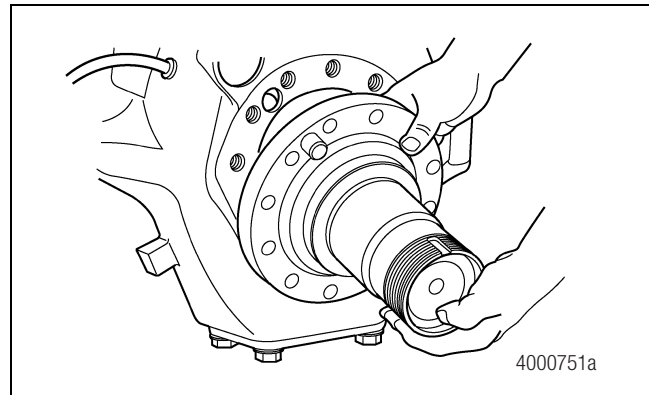

Figure 4.24
13. Pull the spindle straight from the knuckle and drive shaft. Figure 4.24.